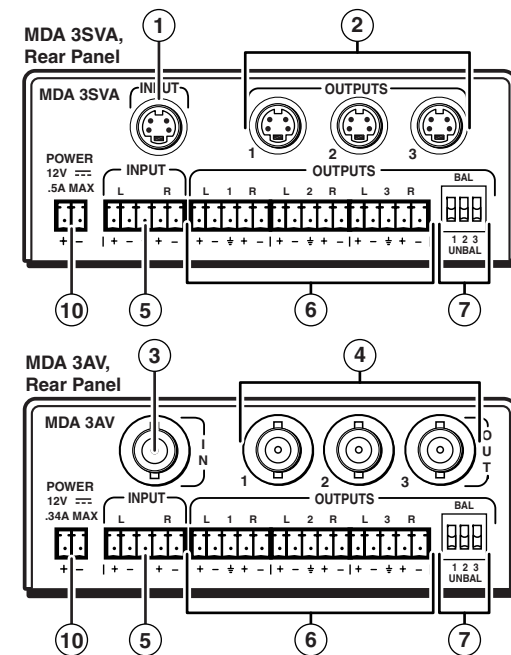
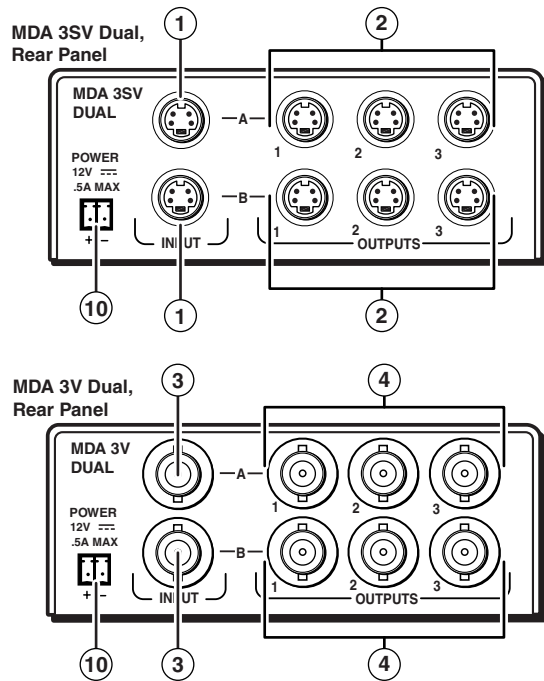
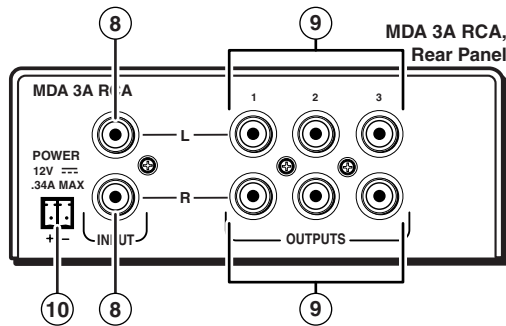

Figure 6 — MDA 3 Series front and rear panels
Figure 7 — MDA 3SV Dual and MDA 3V Dual rear panels
Figure 11 — MDA 3A RCA rear panel
See figure 6, figure 7, and figure 11 to make the following connections. The figures show all of the combinations of connectors that you may encounter with your MDA.
- 1 Input connector (s) — Connect an S-video input to this 4-pin mini DIN connector (figure 6 and figure 7). On the Dual model (figure 7), Input A and Input B are completely separate inputs to two separate distribution amplifiers.
- ③ **In connector or Input connector** — Connect a composite video input to this BNC connector. On the Dual model (figure 7), Input A and Input B are completely separate inputs to two separate distribution amplifiers.
- ④ **Out connector or Outputs (1 through 3) connectors** — Connect up to three composite video devices to these BNC connectors. On the Dual model (figure 7), the A output signals are identical to the A input, and the B output signals are identical to the B input.